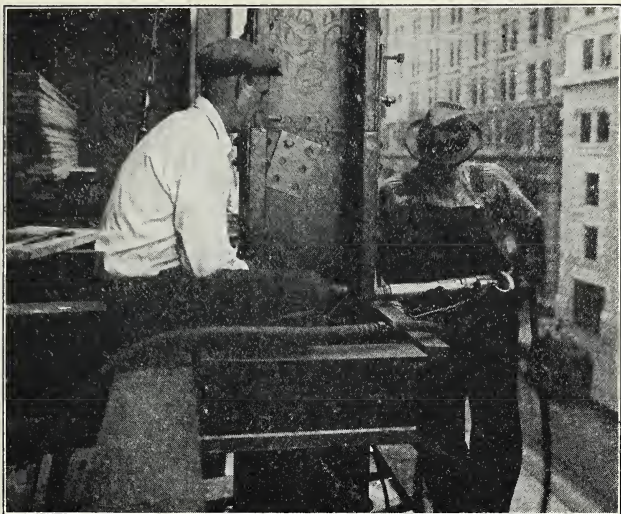

Fig. 40. Compressed air drives the riveting hammer.
- † Compressed air drives the riveting machines that make such a racket on the new skyscrapers and bridges (Fig. 40).